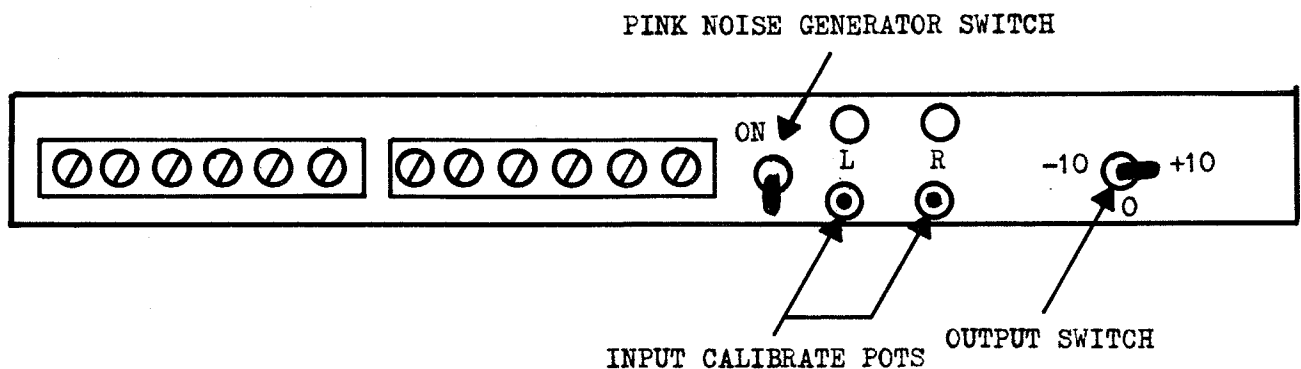

FIGURE 3-6 OUTPUT SWITCH
3.2.2 Output Switch (Figure 3-6)